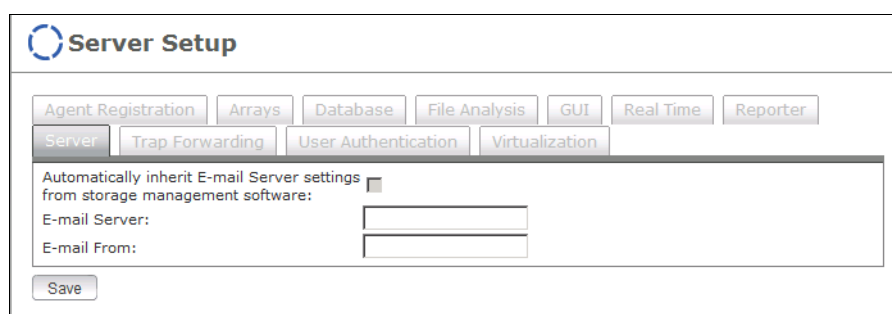

Figure 14-23 Server Setup
5. Click **Administration** → **Server Setup** in the navigation bar to display the Server Setup window as shown in Figure 14-23.